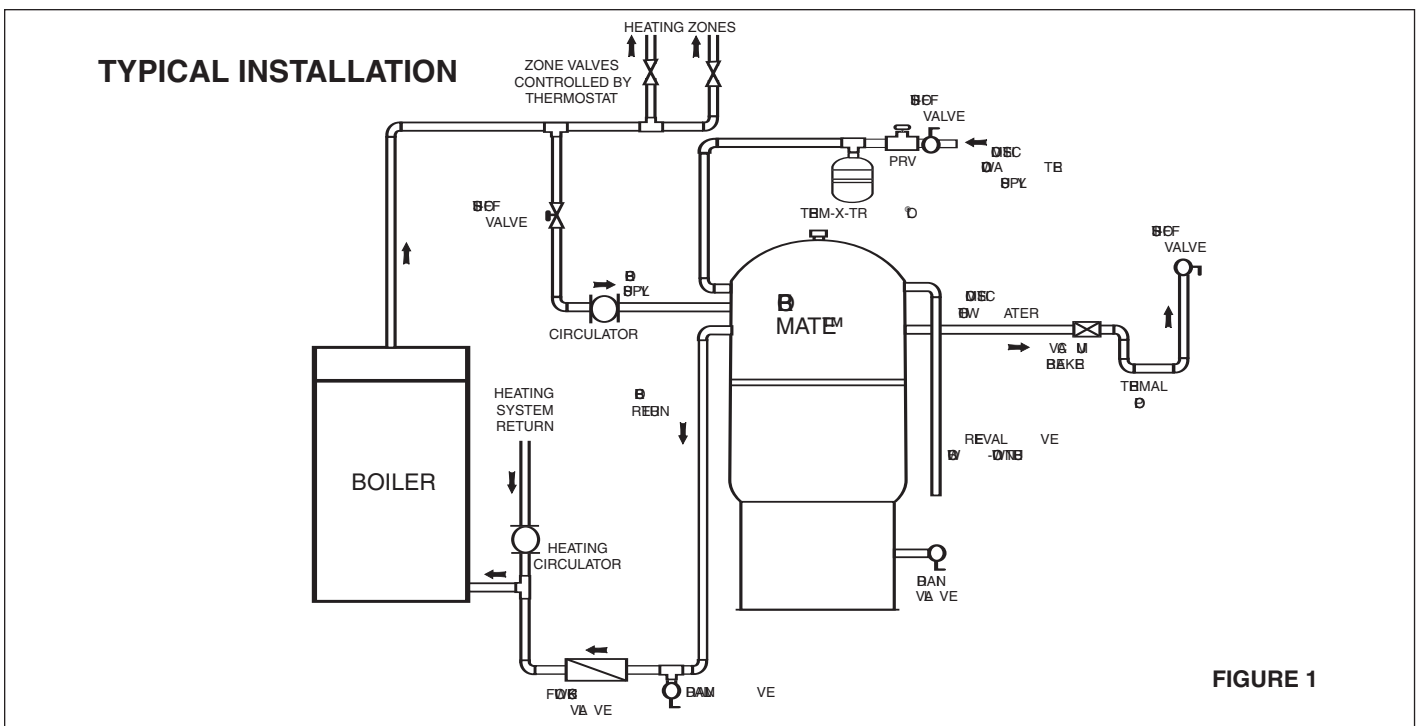

FIGURE 1
- To minimize piping heat loss during non-draw periods, a thermal trap can be installed in the hot water line as shown in Figure 1.
### Step 5 - Connect boiler supply pipe. Figure 1.
### Step 6 - Connect boiler return pipe. Figure 1.